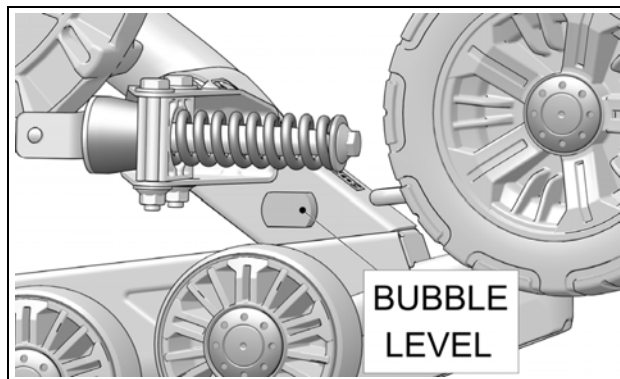

Figure 5
- A Bubble Level is attached to the inside of the front frames. A perfectly centered bubble is needed to adjust the angle of attack correctly. See Figure 5.